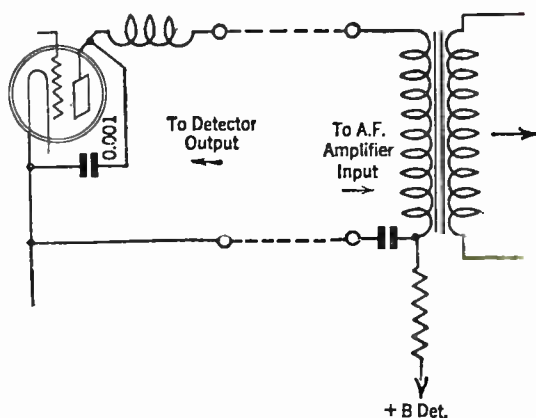
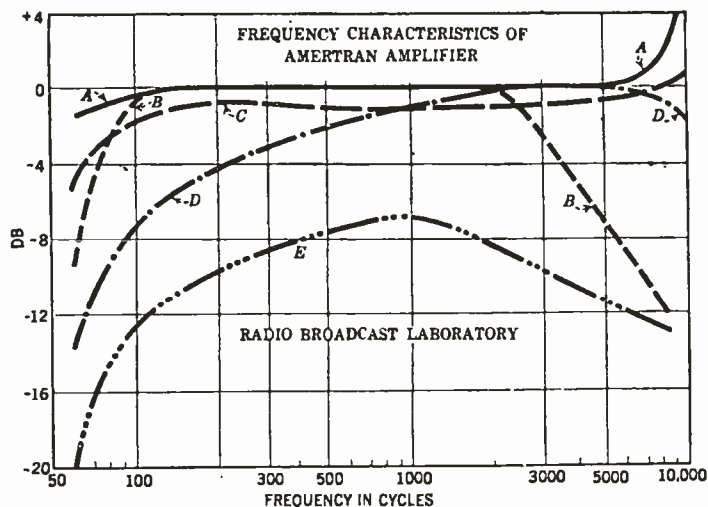

Fig. 1—When filtering is employed in the detector plate circuit, two wires are needed to connect the detector with the amplifier input
Fig. 5—These curves show the frequency response characteristics of the amplifier with various filter combinations
The above paragraphs describe how our apparatus was arranged. Now what happened when we placed tones on the input, and measured them in the output? The amplifier was flat from 100 to 8000 cycles (curve A, Fig. 5), it went down about 1.0 dB at 60 cycles, and up about 8.6 dB at 10,000 cycles where the capacity across the secondary resonated with
After completing this test there were a number of experiments which we had to perform. "How much filtering can we remove before the characteristic goes bad?" "Or will it go bad?" These were questions which we had to answer. First, we removed R_1 , and connected the 22.5 volts directly from the B supply to the lower end of the primary of T_1 . This left 1.0 mfd. across the 22.5-volt tap. At 60 cycles (C) of Fig. 5 the amplifier went down 6.6 dB from its 1000-cycle level, and the entire amplifier was down 1.0 dB. Why?
the amplifier (D) in Fig. 5 was down 14.8 dB at 60 cycles, and down 7.0 dB at 1000 cycles. Placing 8 mfd. across the Majestic unit increased the 60-cycle response to 12.8 dB—a gain of 2 dB—but this was not worth while. Since this is analogous to operating the amplifier with an output transformer, it is absolutely essential that the detector supply be well filtered and as near (physically) the first a.f. transformer as possible. This necessitates two wires from the detector to the amplifier as in Fig. 1.
Filtering the 22.5-volt circuit (the detector plate-voltage supply), as in Fig. 1, and removing all filtering from the first a.f. tube, provided a good characteristic, almost as good as with the filtering in the circuit.